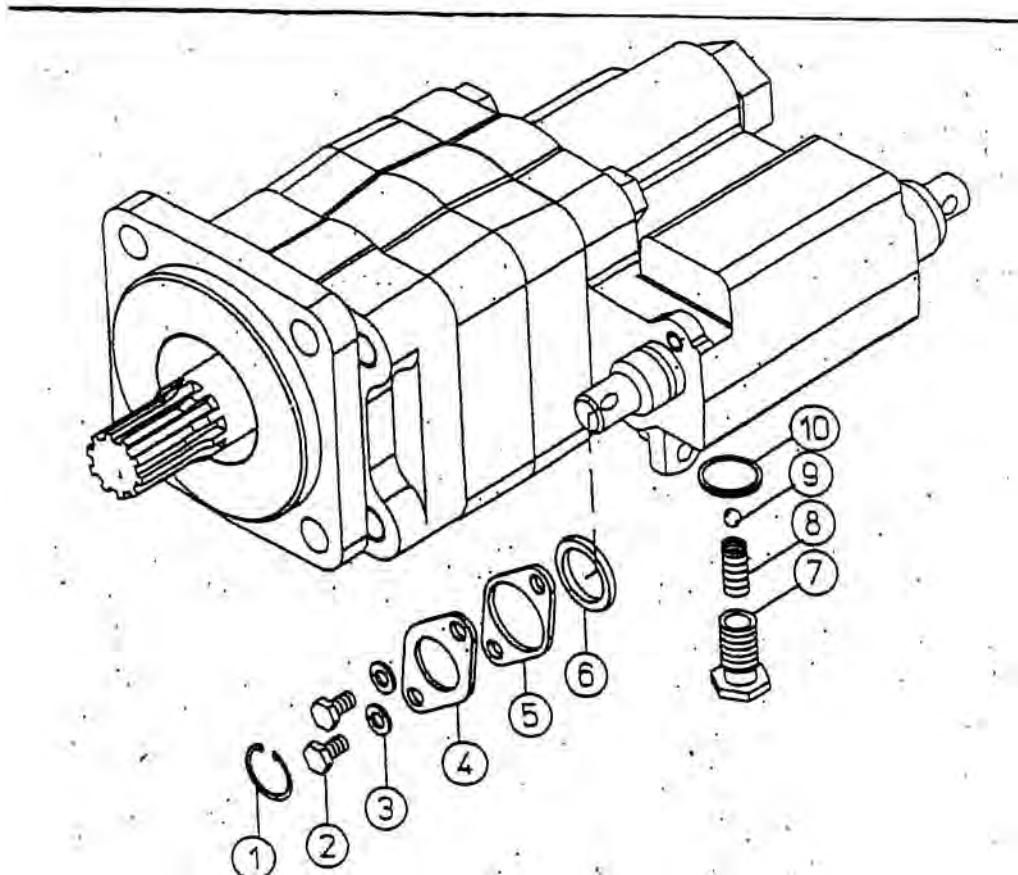

Figure 1: Valve Preparation
1. Refer to figure 1 on page 2 for proper valve preparation instructions.